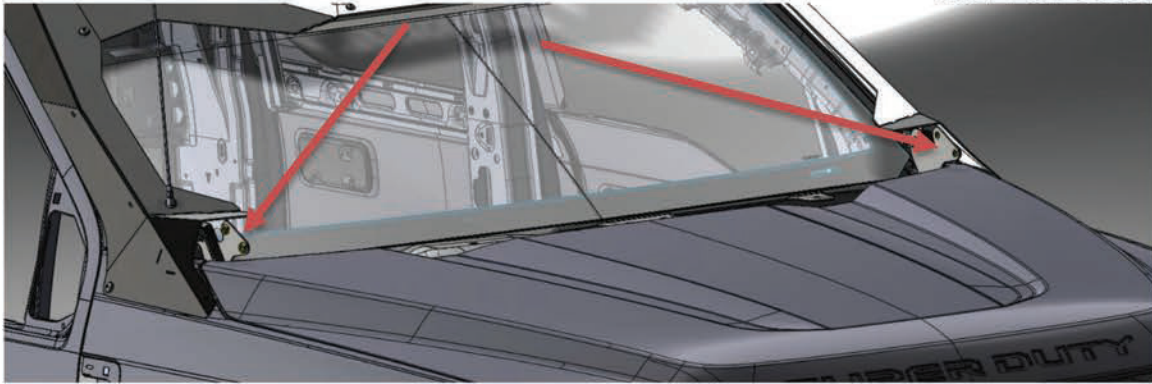

Fig 21
- s. With the help of a friend, lift the ViCowl cowl up over the hood and slowly lower it down on the mounting surface as shown in **Fig 21** indicated by the red arrows.